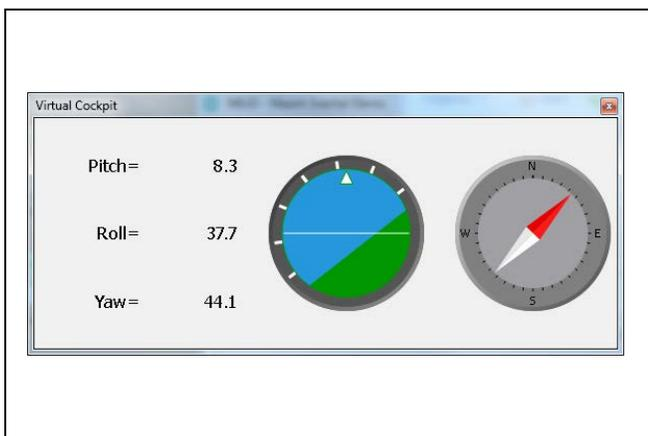

Figure 24. Virtual Cockpit
- **Virtual Cockpit:** This view contains the angular position information in terms of yaw, pitch, roll, and a representation of them as a virtual flight deck (Figure 24).